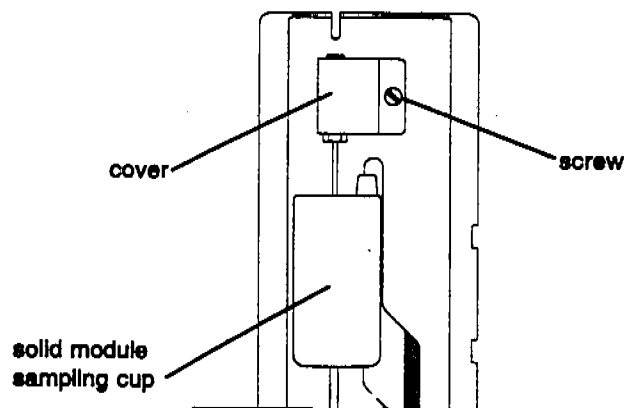

Figure 5-2 Removing the Solid Module Cover
1. Take off the solid needle cover (Figure 5-2, above).